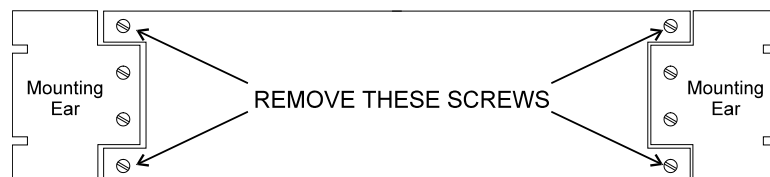

Figure 1: DFR front panel (9448 Enclosure)
- ☐ 8. Remove the screws that hold the DFR's front panel to the front of the electronics chassis housing as shown in the Figure 1 above and roll out the electronics chassis drawer.